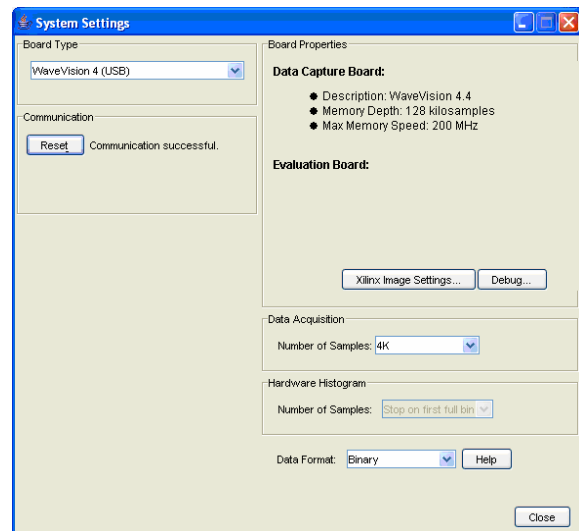

Figure 9: System Settings window
2. From the WaveVision main menu, go to Settings and then Capture Settings to open the System Settings window (*Figure 9*) and select the following:
**Problem 5:** The Eval Board is not recognized correctly in the System Settings Window (Figure 9). Try Solutions D and E.